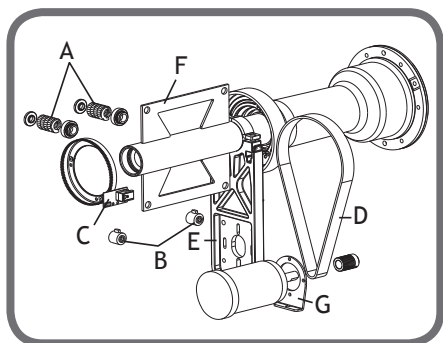
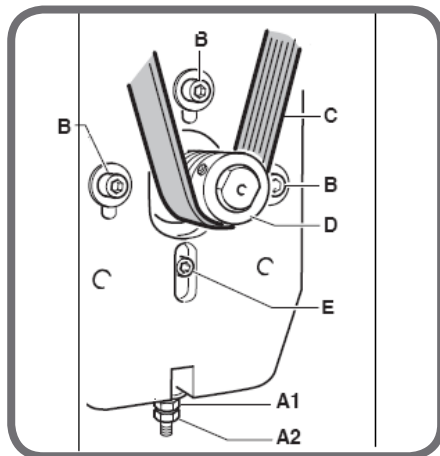

Fig. 10
Fig. 13
- loosen the pick-up pre-load springs completely (A, Fig. 10);
- unscrew the two M10 dowels and replace the pick-ups (B, Fig. 10) with the new ones;
- completely unscrew the 2 screws that hold the pre-load springs (A, Fig. 10) of the pick-ups;
- unscrew the two M10 dowels that fix the pick-ups (B, Fig. 10);
- remove the belt (D, Fig. 10) as described in the paragraph "Replacement and adjustment of the belt";
- disassemble the motor support (E, Fig. 10), unscrewing the two M8 fixing screws;
- remove the swinging unit (F, Fig. 10) after unscrewing the four M12 fixing screws and the relative locknuts;
- unscrew the nut and locknut used to tighten the belt (A1, A2, Fig. 13);
- loosen the three motor fixing screws (B, Fig. 13) on the motor support;
- disassemble the belt (C, Fig. 13) and replace it with the new one;
- block the motor fixing screws (B, Fig. 13).
- unscrew the two nuts of the belt tightening screw (A, Fig. 13);
- loosen the three motor fixing screws (B, Fig. 13);
- disassemble the belt (C, Fig. 13) from the motor pulley (D, Fig. 13);
- remove the motor with the flange (G, Fig. 10) from the aluminium support (E, Fig. 10);
- unscrew the screw fixing the motor (E, Fig. 13) to the flange (G, Fig. 10);